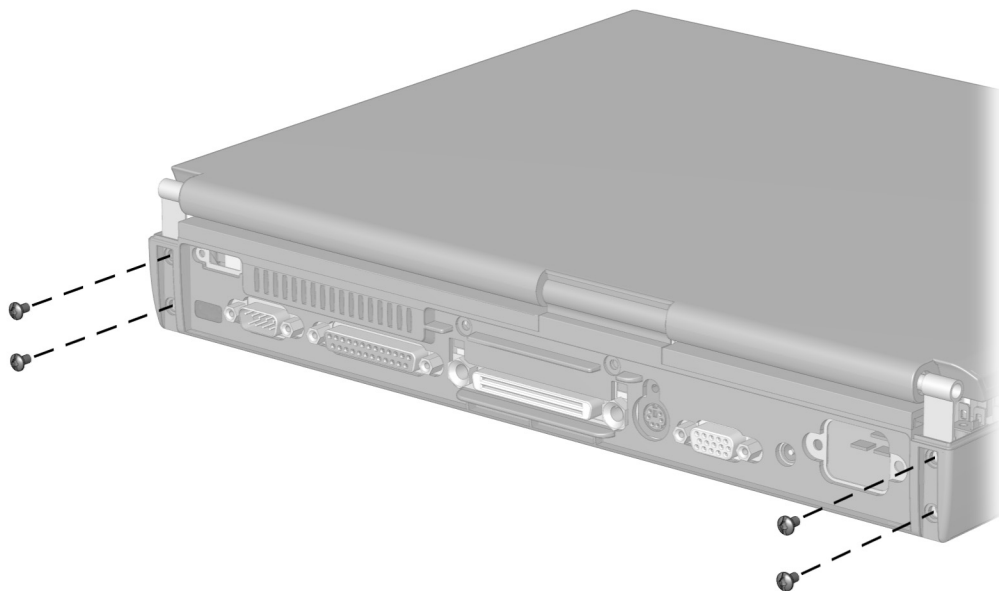

Figure 5-47. Removing the Display Assembly Screws
7. Remove the four screws that secure the display assembly clutches to the base assembly (Figure 5-47).